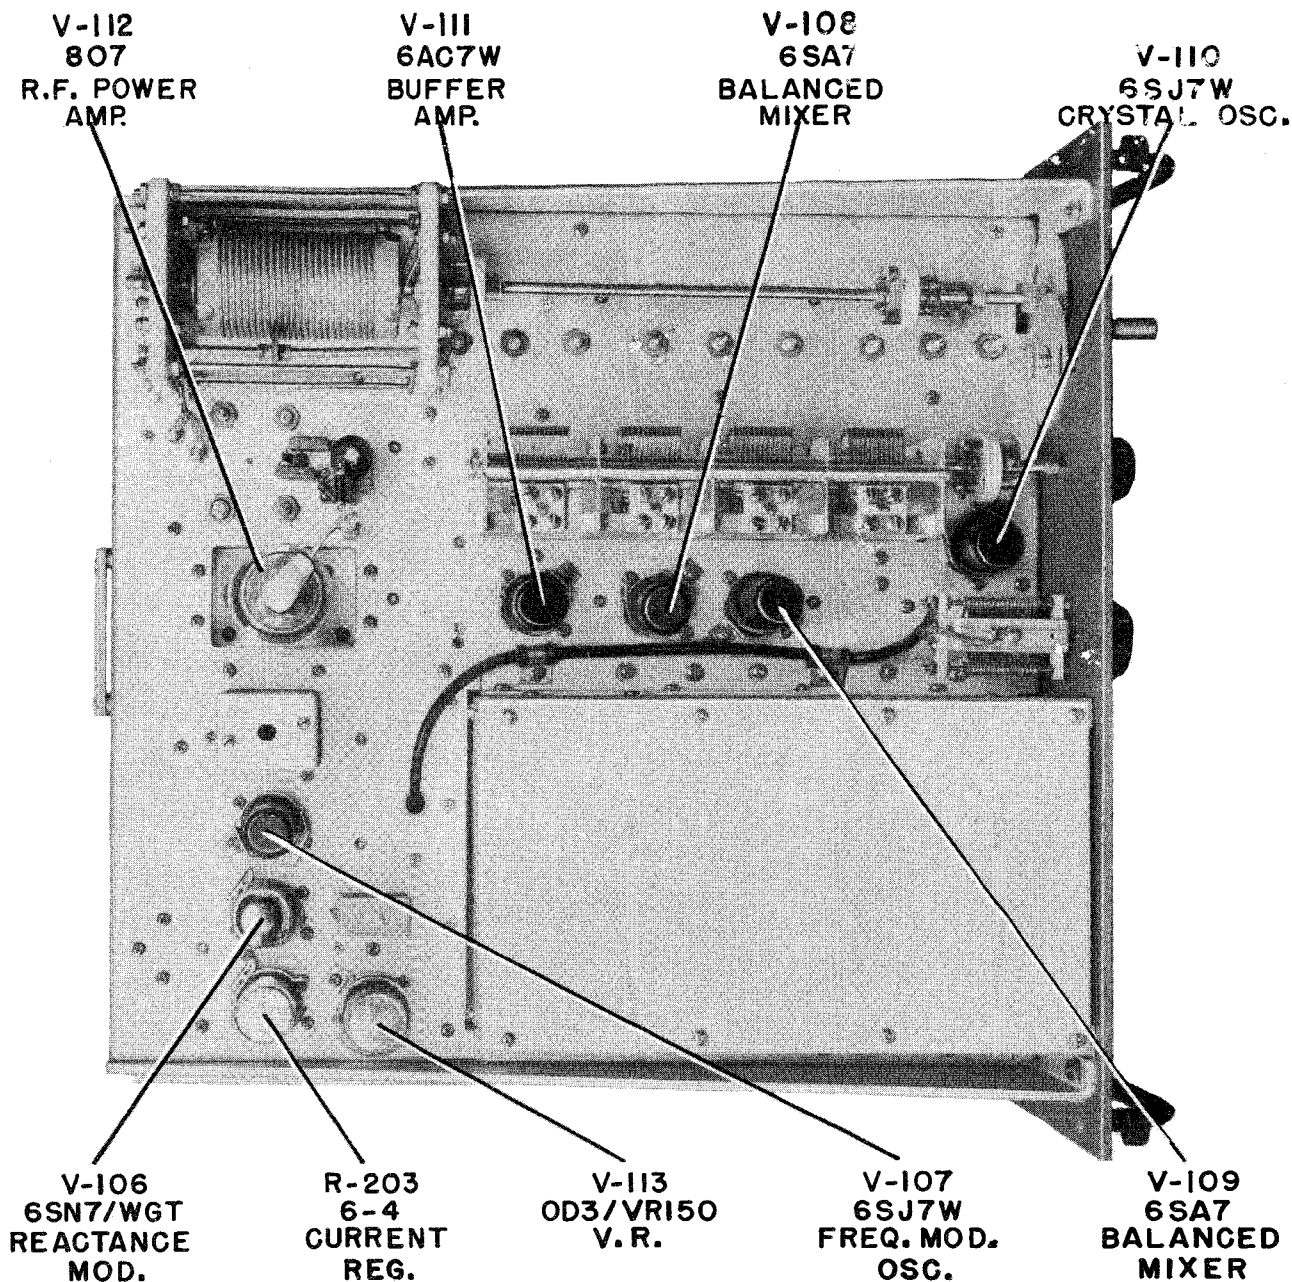

Figure 5-2. Tube Locations, Amplifier-Oscillator AM-655/URT
b. ELECTRON TUBES.—All electron tubes employed in the keyer are located and identified on Figures 5-2 and 5-3. If a particular tube is burned out, as observed by the absence of heater or filament glow,